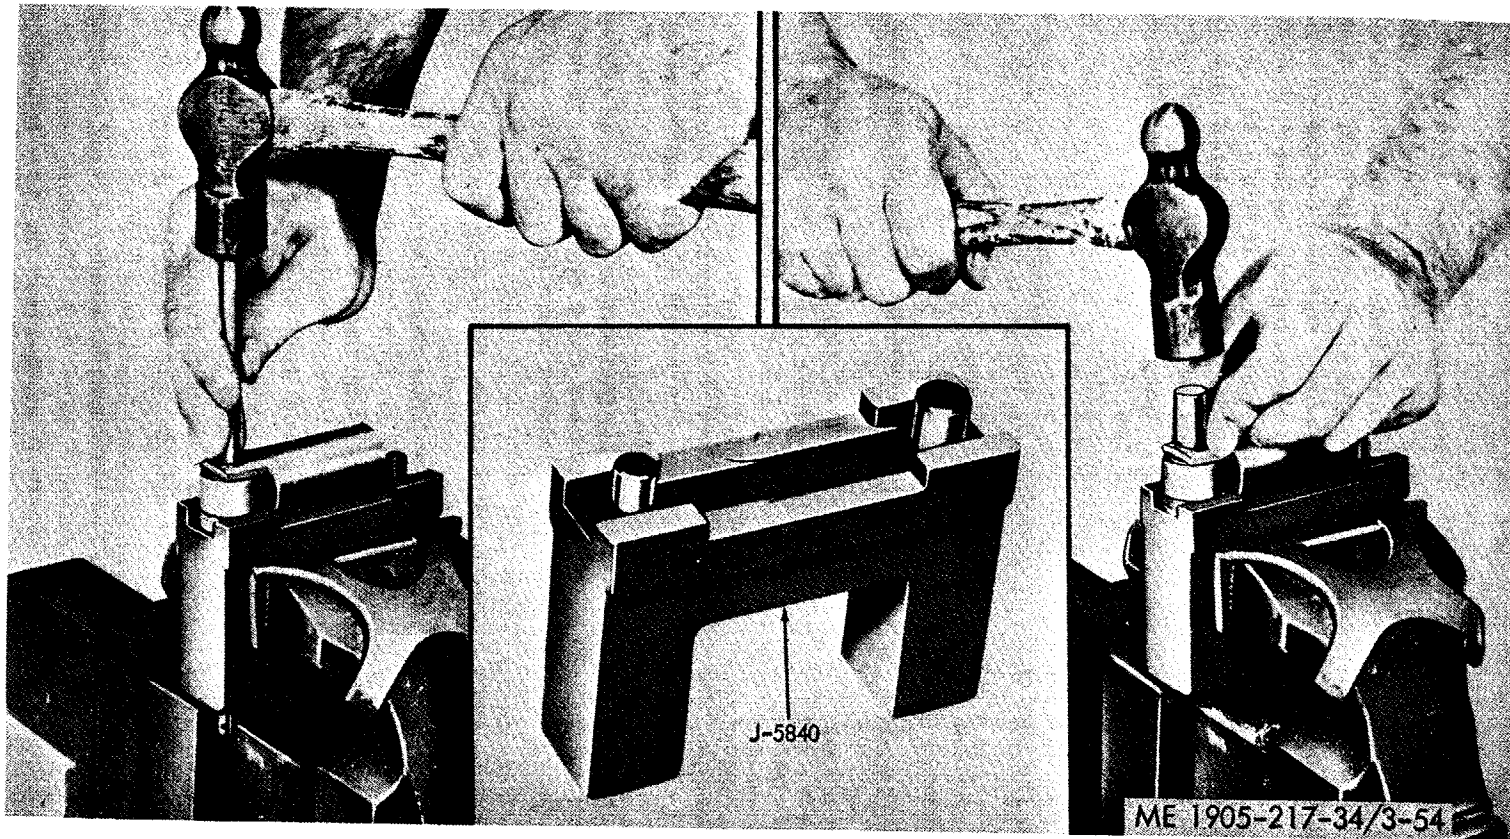

Figure 3-54. Cam follower, roller, and pin, removal and installation.
(a) Lock the fixture securely in a vise as shown in figure 3-54. Then, place the cam follower in the groove in the top of the fixture with the follower pin resting on top of the corresponding size plunger in the fixture.
- (e) Start the roller pin squarely into the follower. Then, carefully drive the pin into the assembly until the pin is centered in the legs of the follower (fig. 3-54).